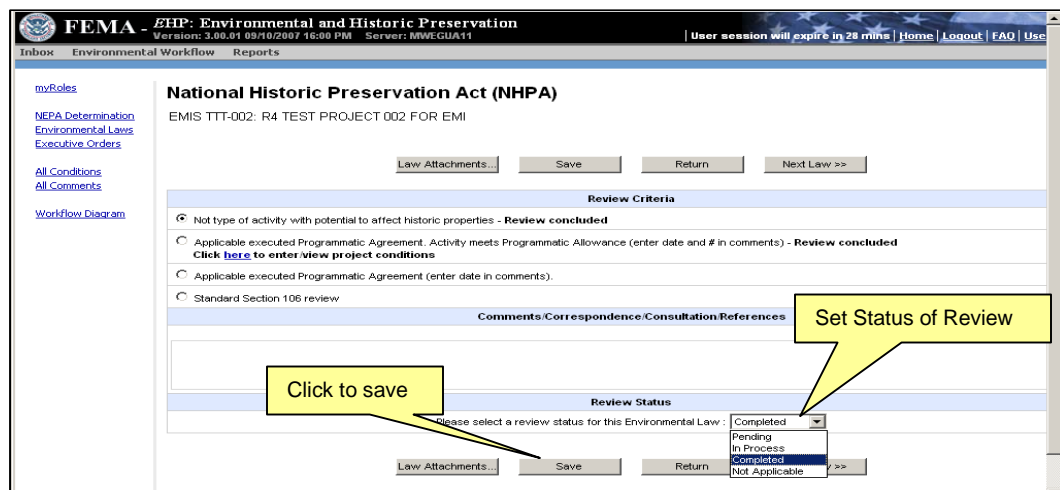

Figure 3.13: Setting the Project Review Status
- Click **Save** as shown in Figure 3.13